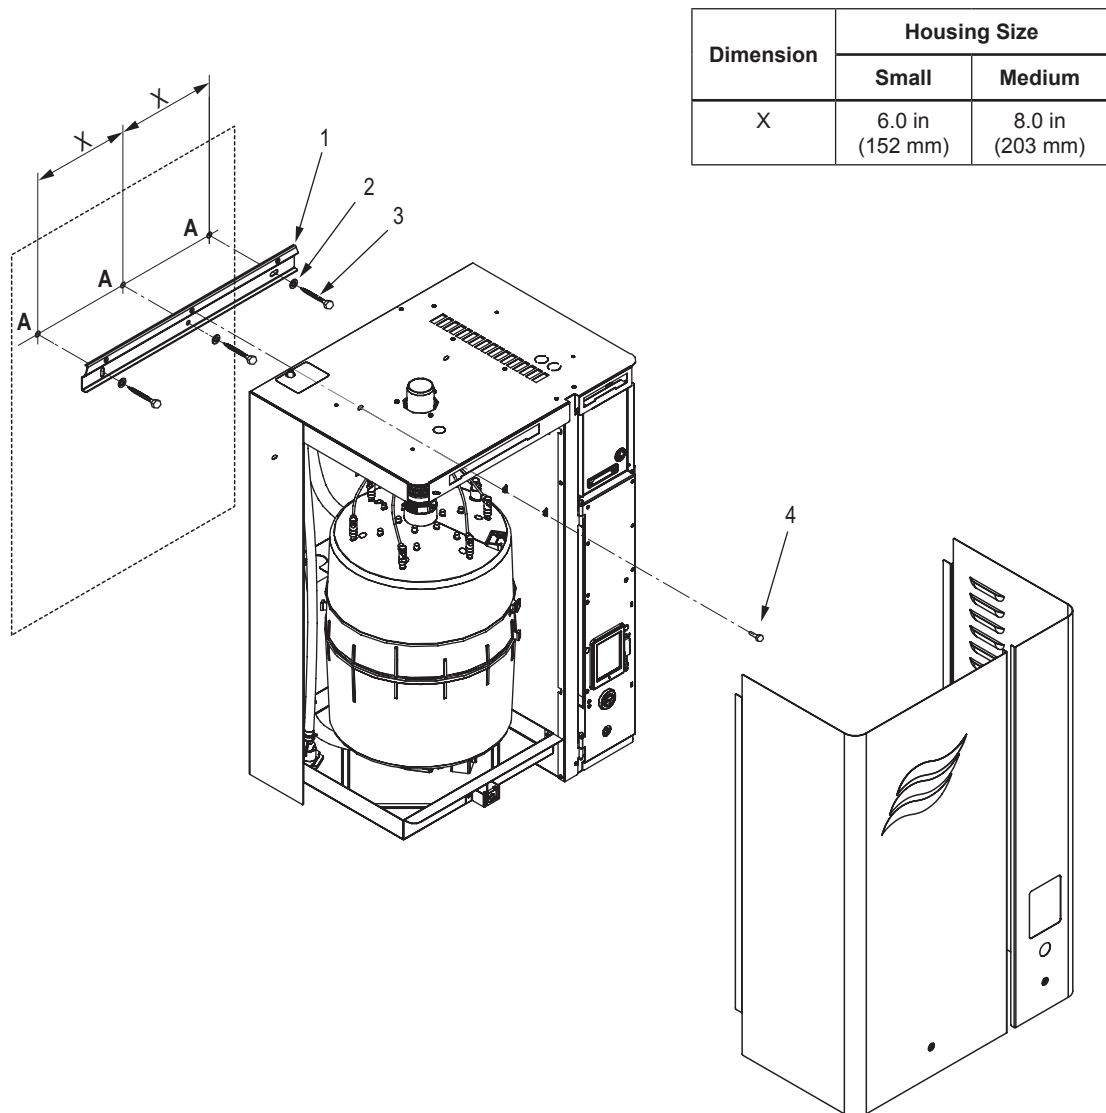
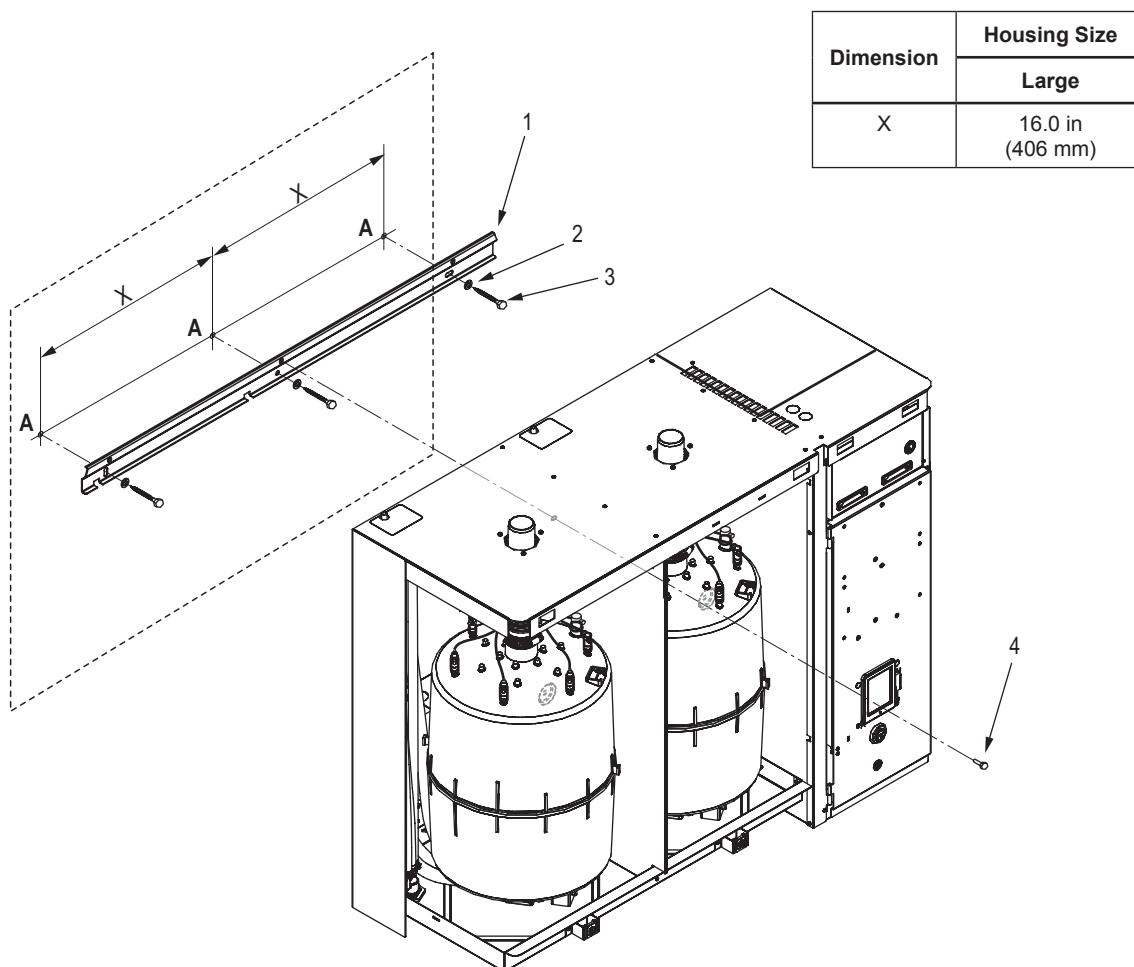

Figure 9: Optional Mounting, Small or Medium Housing
Figure 10: Optional Mounting, Large Housing
1. Locate 2×4 wooden studs or equivalent support in the mounting surface, and mark the attachment points "A" at the desired position with the help of a level. For small or medium housing refer to Figure 9. For large housing refer to Figure 10 on page 25.